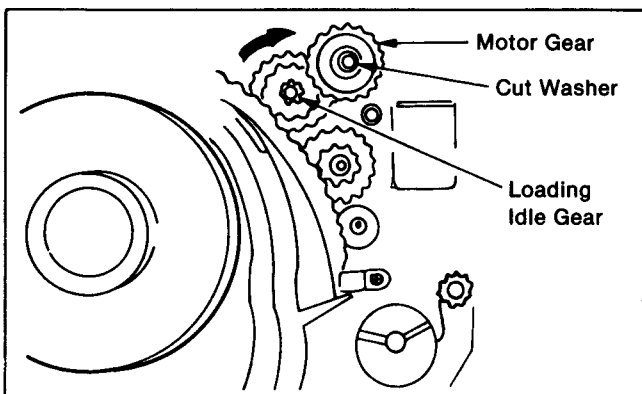

Fig. M13
- (6) Remove the Cut Washer and Motor Gear. Then place the Unit in play position completely by rotating loading Idle Gear clockwise as shown in Fig. M13.